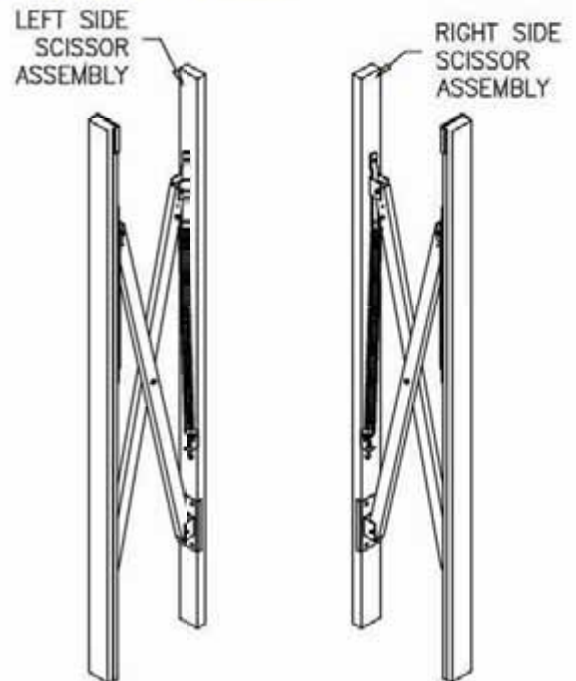

FIG. 2
5. **Determine left and right vertical frames:** The vertical frame should be mounted in a manner which allows the spring assembly to be positioned at the top inside edge "Close to the door opening" (fig. 2).